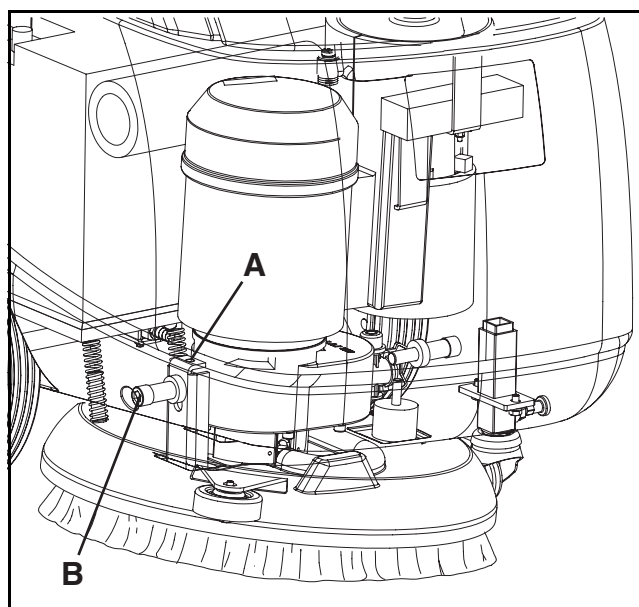

Figure 29
2. Adjust the machine speed by means of the screw (A, Fig. 29), according to the following procedure:
- Loosen the screw (B, Fig. 29) on the right side of the machine, by turning it counter-clockwise.
- Turn the adjusting screw (A, Fig. 29) counter-clockwise to increase the machine speed.
- Turn the adjusting screw (A, Fig. 29) clockwise to decrease the machine speed.
- After adjusting, tighten the screw (B, Fig. 29).